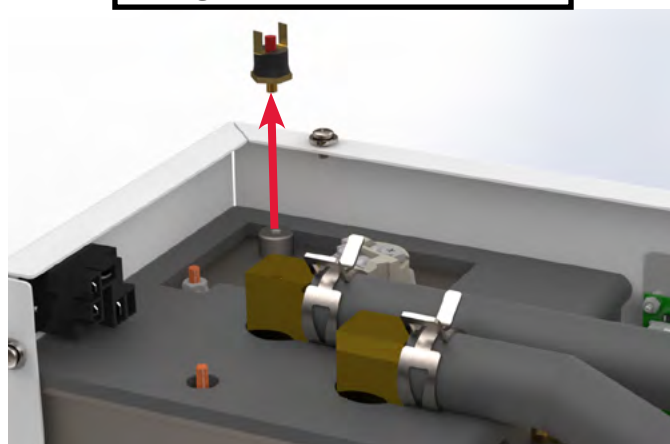

Figure 42
3. Using a  $\frac{5}{8}$ " (16mm) wrench, remove the thermostat from its location on the fluid tank. Reference Figure 42 for the DC high-limit thermostat removal and Figure 43 for the AC high-limit thermostat removal.